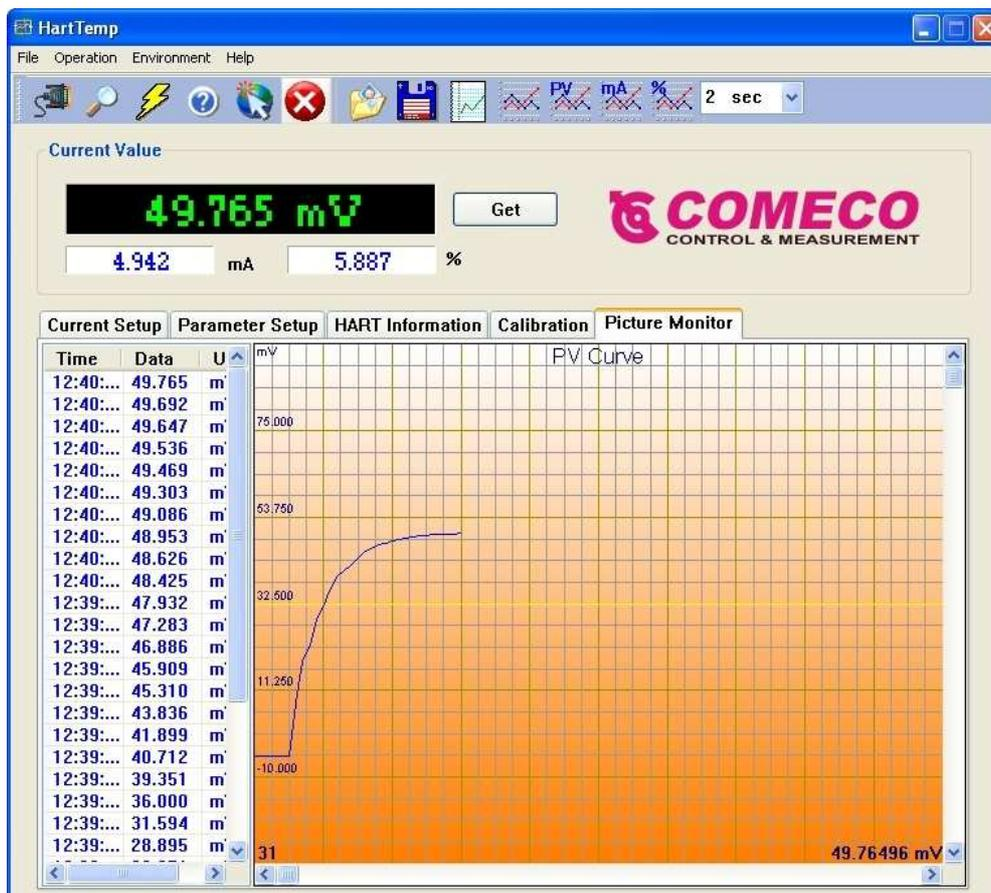

Fig. 12
- ❖ If you want to see history data in table format - click . It will open an additional window area for data table (Fig. 12) with time stamp, data measured and unit: